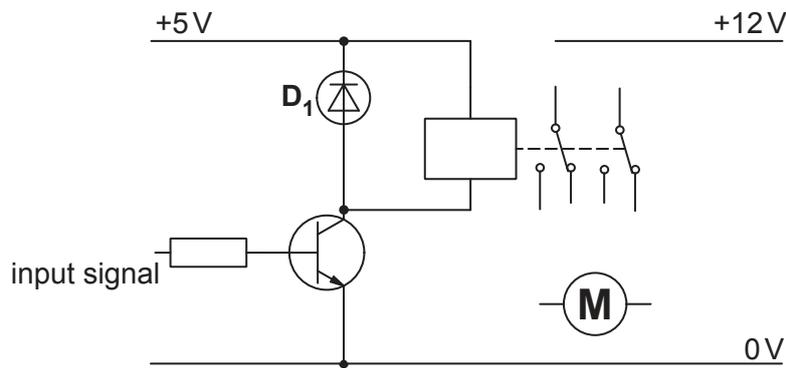

Fig. 12.5
- (ii) Fig. 12.5 shows a circuit diagram with a DPDT relay and a motor. The relay is operated by a transistor switch. Add connections to the relay contacts that will allow the motor to be reversed.